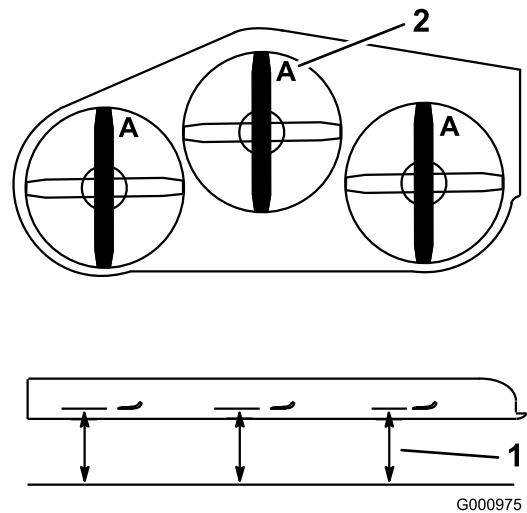

Figure 105
2. Measure from a level surface to the cutting edge, position A, of the blades (Figure 105).